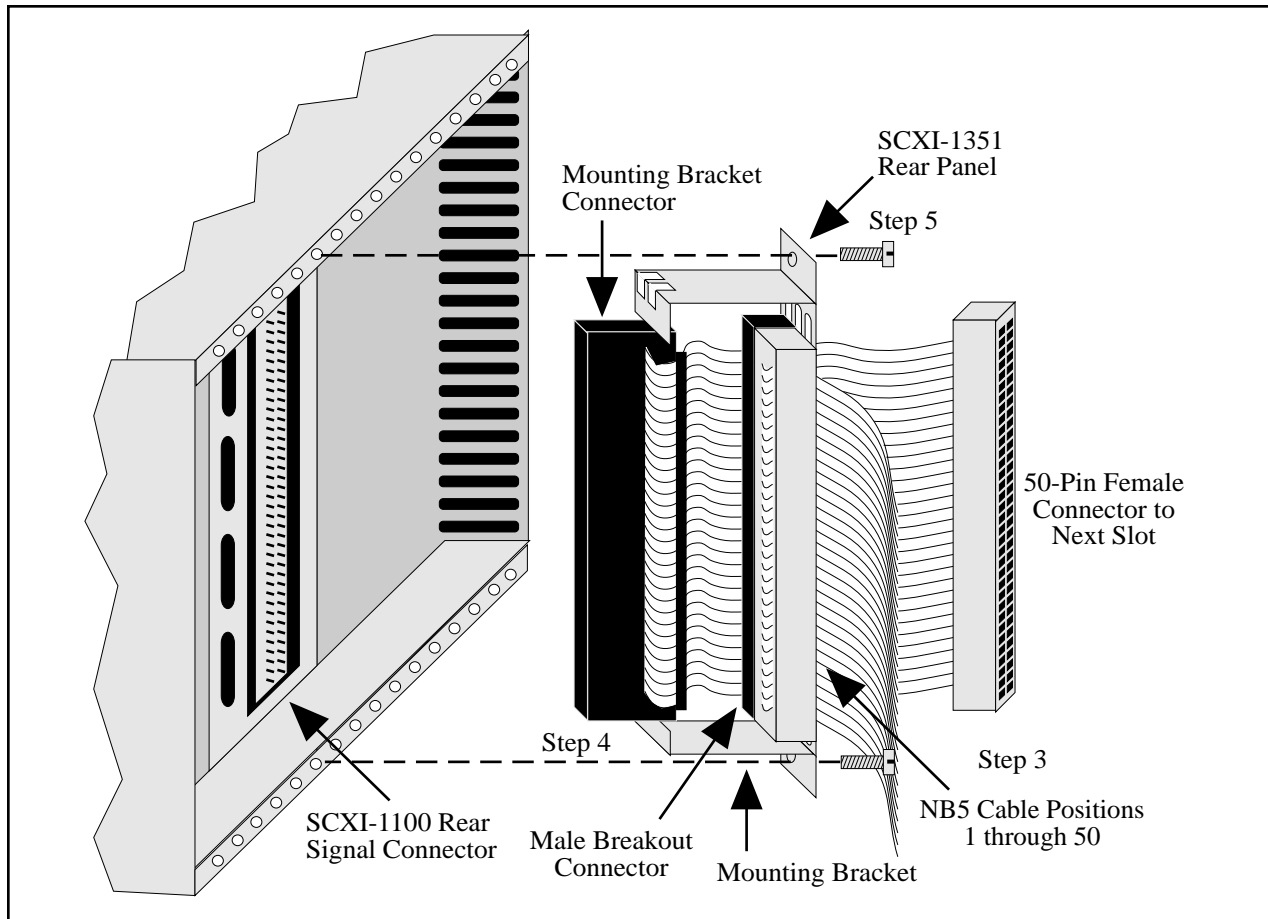

Figure E-2. NB5 Cable and SCXI-1351 Installation
4. Plug the mounting bracket connector onto the module rear signal connector (see Figure E-2). Make sure the alignment tab on the bracket enters the upper board guide of the chassis.